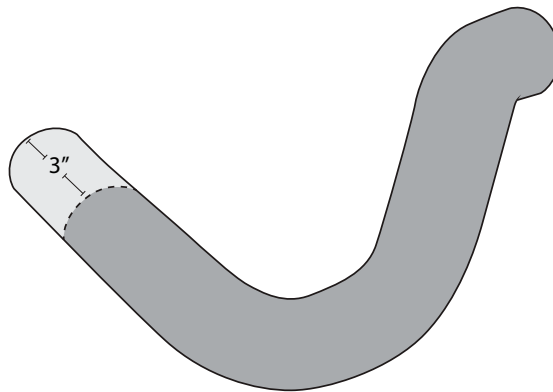

Figure 23
23. Trim 3 inches off of the lower end of the radiator hose (fig 23).